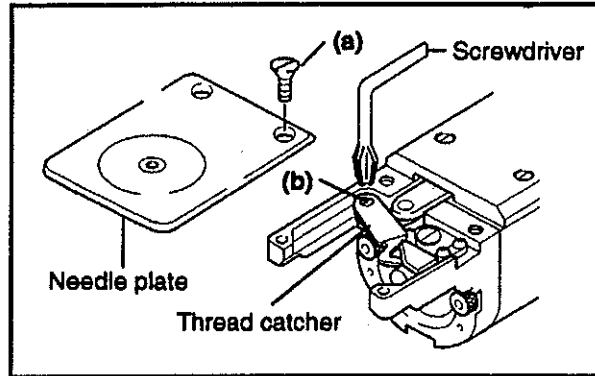

FIG.1
- (1) Remove the work table.
- (2) Remove two retaining screws (a) and detach the needle plate (Fig.1).
- (3) Remove retaining screw (b) and detach the thread catcher (Fig.1).